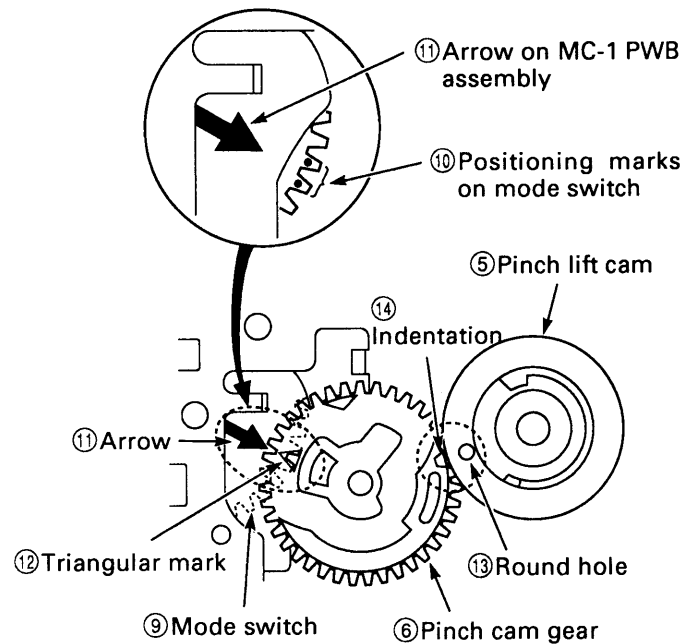

Fig.3-9-3
1. Apply grease (VHJ-0100) around the shaft ⑦, all over the teeth ⑧ of the pinch cam gear ⑥, all over the teeth of the pinch lift cam ⑤, all over the cam grooves ④, and all over the "V Part" ③ of the opener mounting ③. Apply grease (VHJ-0101) to the outside of the shaft ⑧ and all over the top cam ④ of the pinch cam gear ⑥.
2. Check that the positioning mark ⑩ on the mode switch ⑨ is aligned with the arrow ⑪ on the MC-1 PWB assembly, as shown in Fig.3-9-3. Then align the triangular mark ⑫ on the pinch cam gear ⑥ with the arrow ⑪ on the MC-1 PWB assembly. After that, align the round hole ⑬ on the pinch lift cam ⑤ with the indentation ⑭ on the pinch cam gear ⑥.